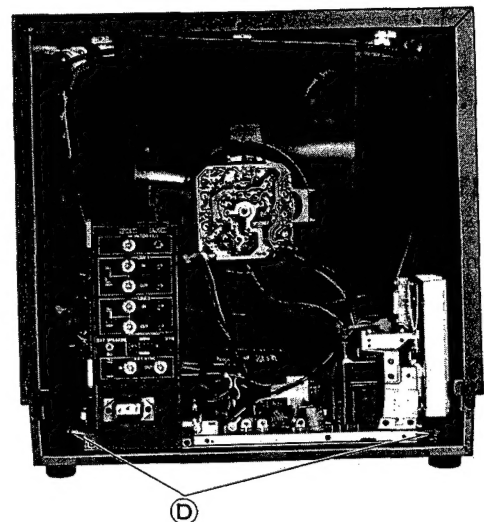

Figure 4
1. Pull the chassis securing the chassis rail while pushing the 2 pawls (D) shown in figure 4.